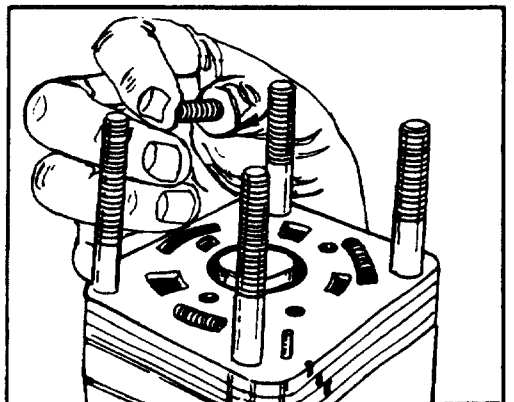

FIGURE 13.
remove springs 14. Remove three springs (14) from the isolation manifold (15) pockets. See figure 13.